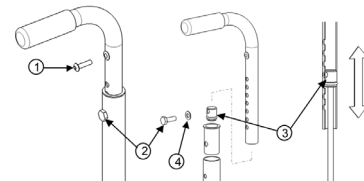

Fig. 15
- Loosen the screw (1) (Fig. 15) that holds the back upholstery.
- Pull backrest upholstery down several centimeters in order to access screw (2) that holds the push handle.
- Remove screw (2) and the backrest handle.
- To adjust the backrest height, with the help of a threaded rod ( $\frac{1}{4}$ "-20), move the dowel nut (3), which is located inside the handle.
- Once this step is completed, use screw (2) to hold the dowel nut (3) while removing the threaded rod.
- Remove screw (2) and reinstall backrest handle.
- Align screw (2) with the mounting hole.
- Reinstall and tighten screw (2) and the washer.
- Reinstall the backrest upholstery with screw (1) and tighten to fit snugly.